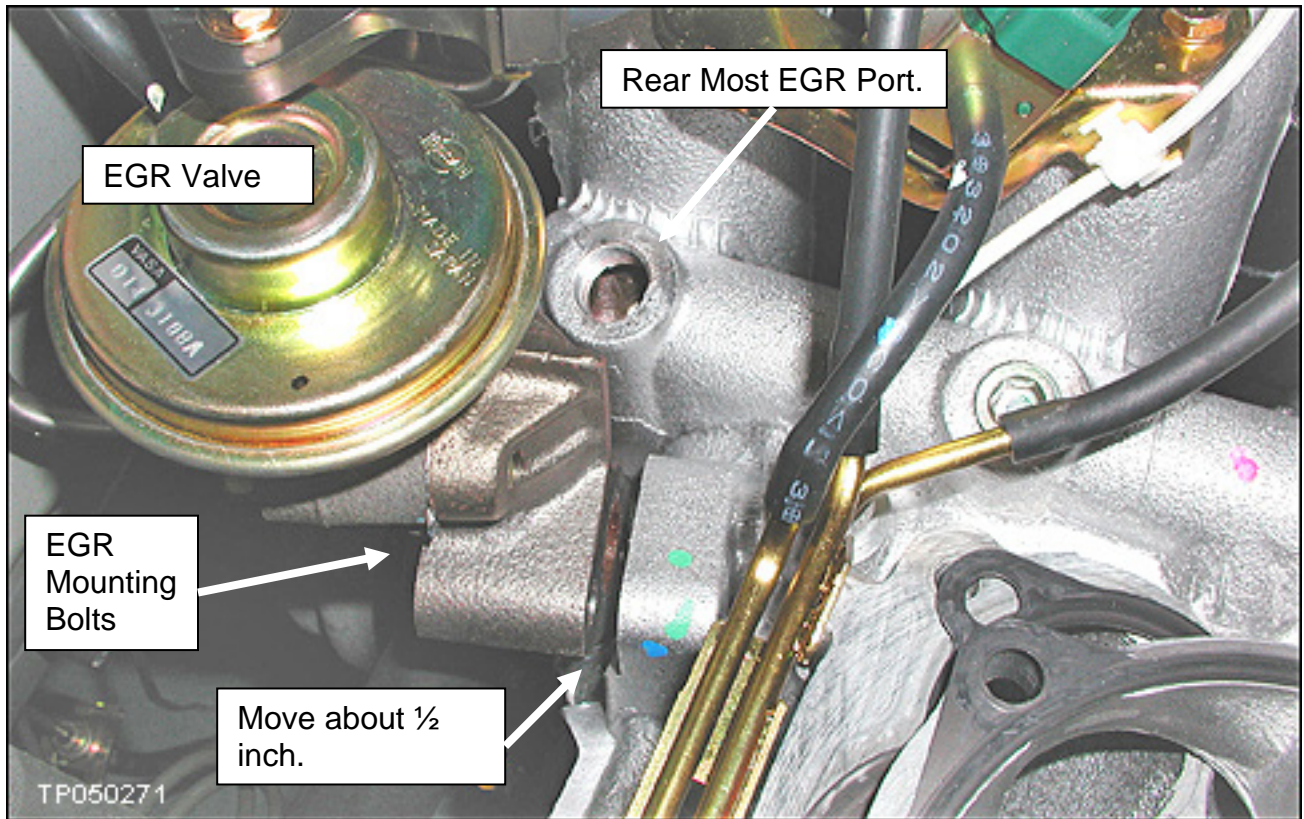

Figure 2
2. Remove the EGR valve mounting bolts and then move the EGR valve outward about ½ inch (see Figure 2).